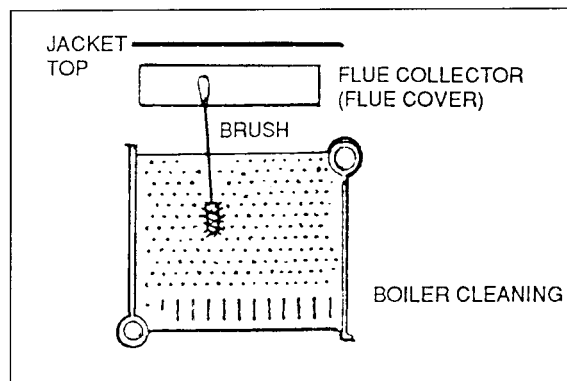

Figure 17.
4. Burner and boiler flue passage cleanliness: BURNER AND FLUE CLEANING (see figure 17). It is suggested that paper be placed on burners to collect any foreign material when cleaning flues.